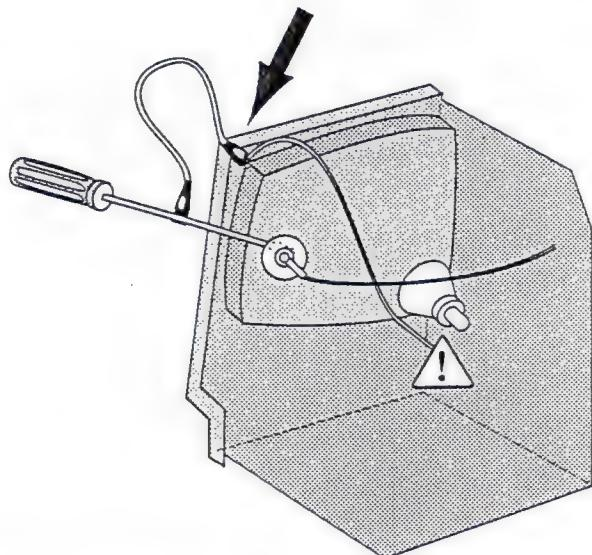

Figure 5 : Discharging the CRT anode
2. Attach the alligator clip of the CRT discharge tool to the metal part of the ground lug exactly as shown in Figure 5;